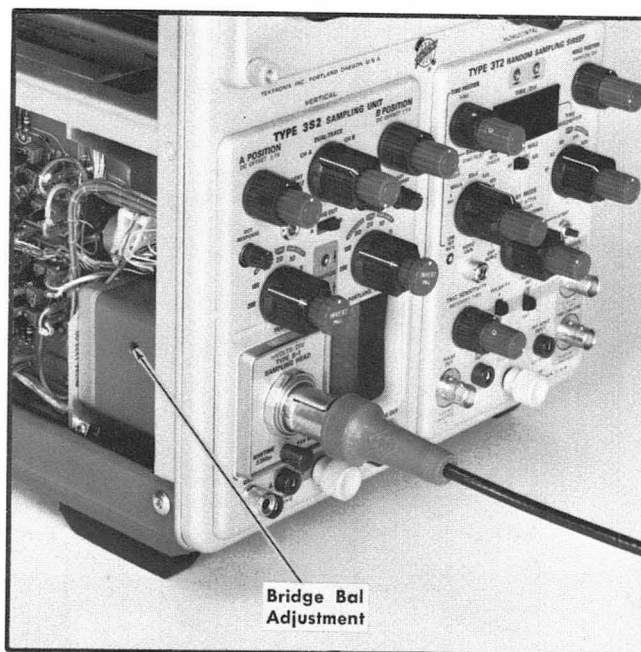

Fig. 2-4. Bridge Bal Location.
17. Switch the Type 3S2 Units/Div control throughout its range, adjusting the Type S-1 Bridge Bal control for a trace shift of not over one division as the Units/Div control is switched from one end to the other. See Fig. 2-4 for the location of the Bridge Bal control. This adjustment must be made whenever the Type S-1 is shifted from one sampling unit to another, or operated on a sampling head extender cable.